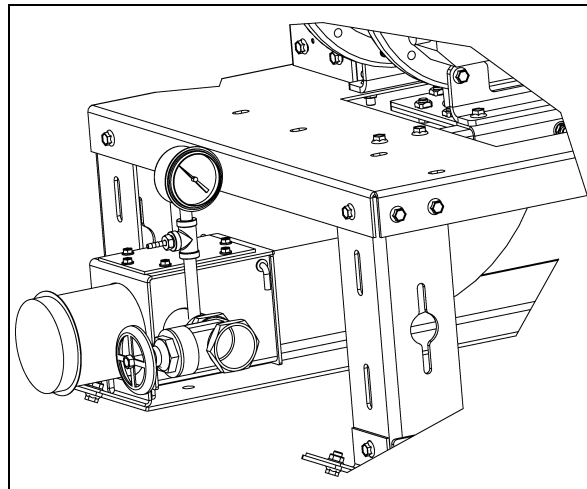

Figure 7K
- Remove 1/4" pipe plug in gate valve pipe. Install gauge assembly and attach air hose. (See Figure 7K)